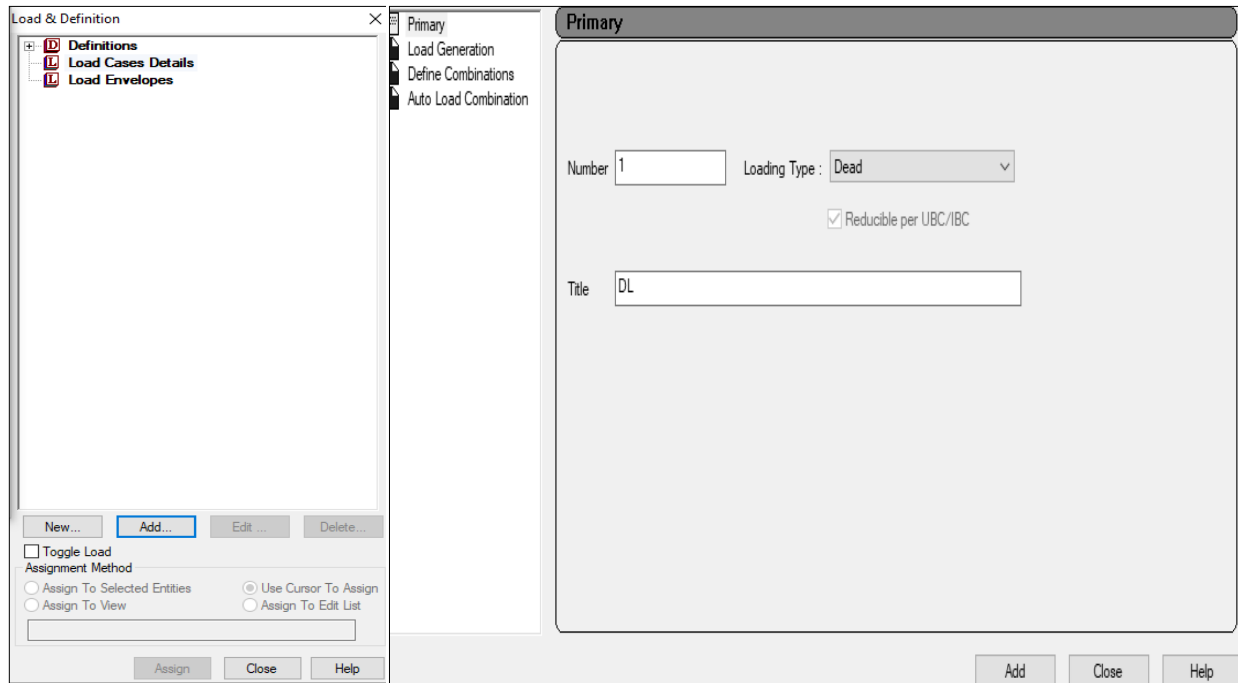

Fig: 4.25
2.4 Load & Definitions → Load Cases Details → Add → Loading Type = Dead → Title = Dead Load or DL → Add → Loading Type = Live → Title = Live Load or LL → Add → Close. (Fig: 4.25)